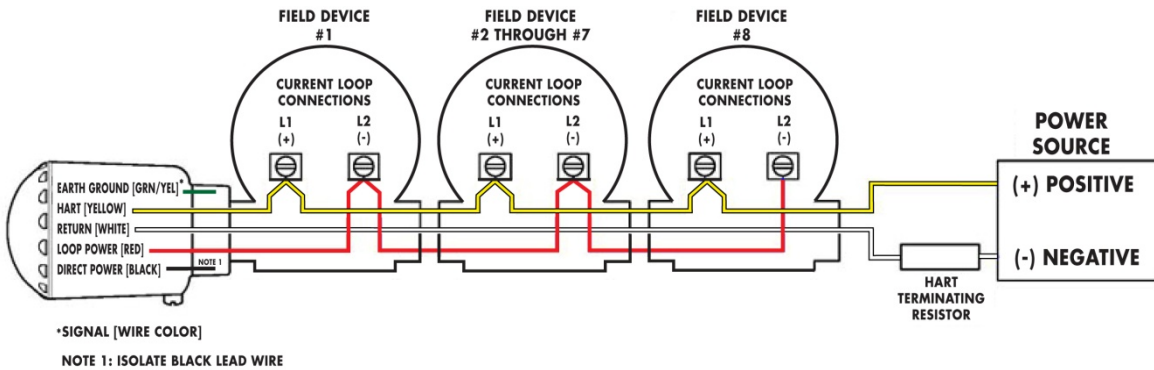

FIGURE 27: LOOP POWER Multi-Drop Configuration
For proper HART communication the Wired-HART network requires a 250Ω terminating resistor. When configured for LOOP POWER, the terminating resistor must be hard wired into the system as shown in Figure 27. The HART terminating resistor must be located in series with either power source terminal. The location of the HART terminating resistor will not affect the wiring shown in Figure 27. To operate in this mode the Device Description (DD). parameter FIELD DEVICE POWER CONTROL must be set to the OFF position which is the factory default setting.
Figure 27 is a simplified representation of this LOOP POWER multi-drop configuration. The DIRECT POWER, black lead wire, is not required for this configuration and is not shown. The EARTH Grounding connection is not shown.